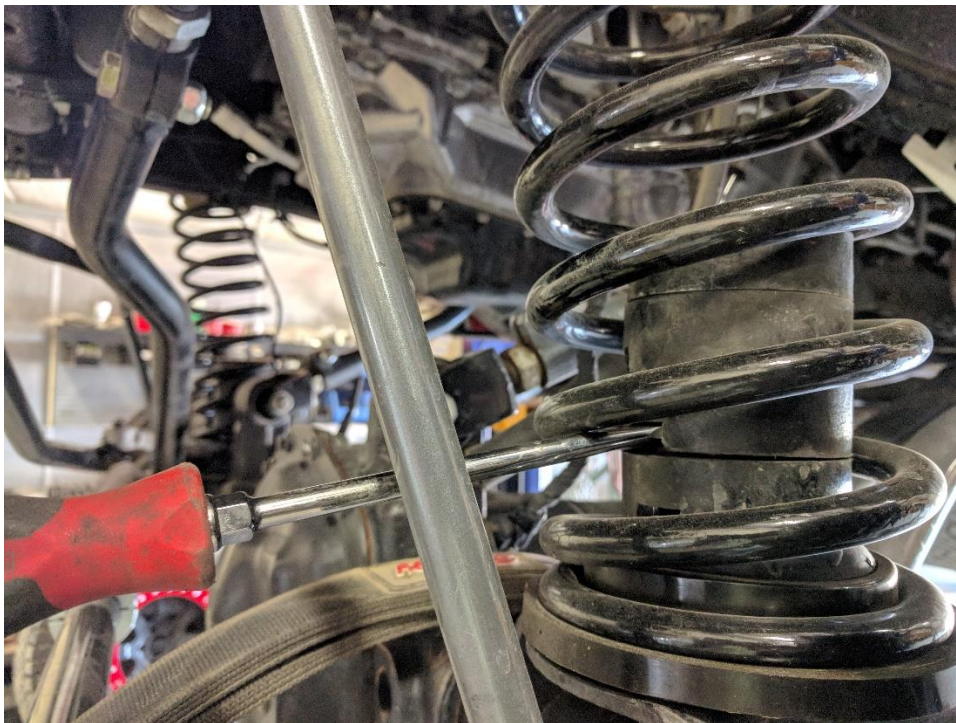

Figure 3. Separating Spacers With Screwdriver
9. If the spacers need to be separated, use a large flat head screw driver or cold chisel in the slot provided. See **Figure 3**.